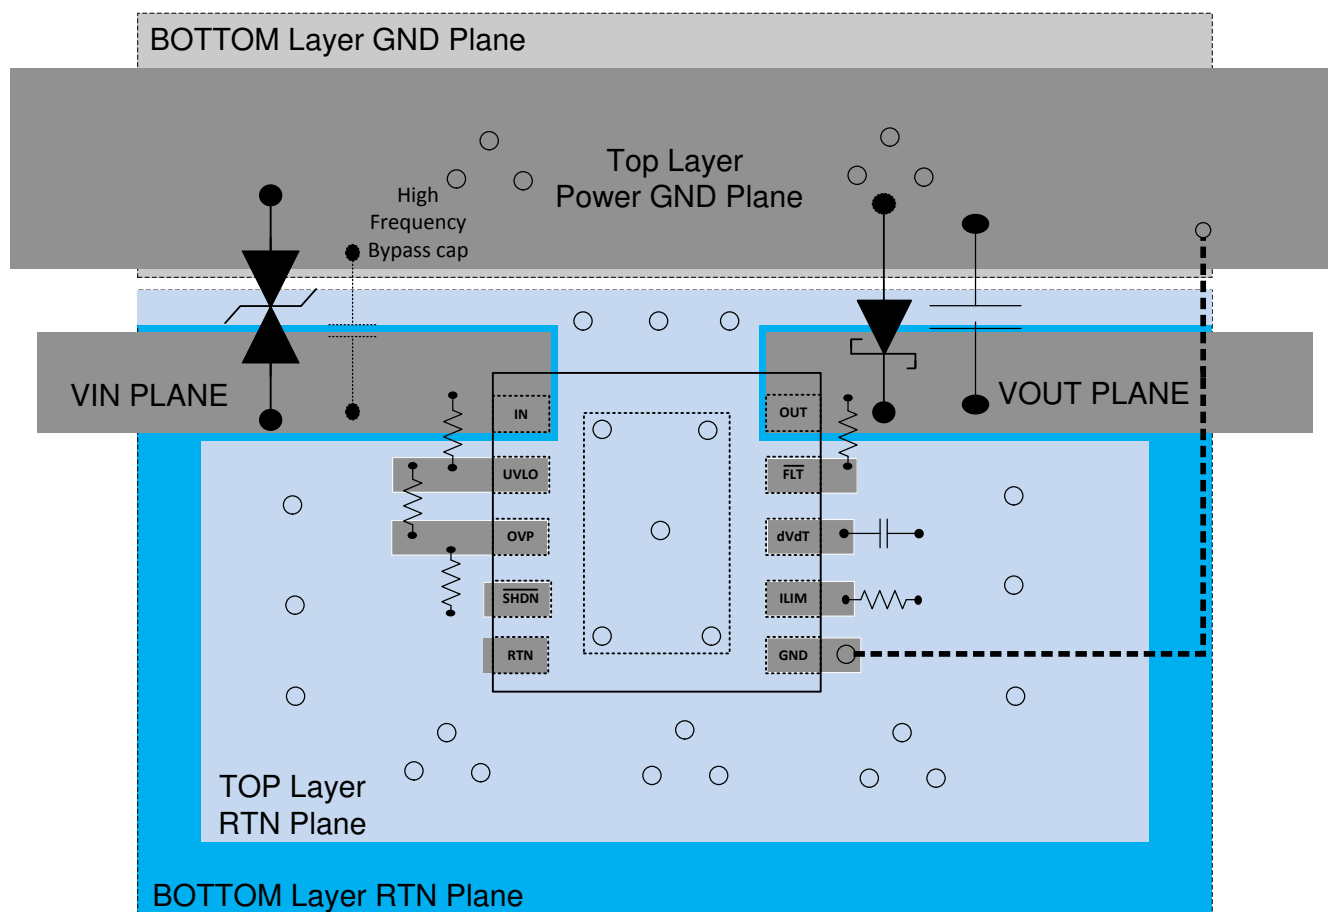

图 12-1. Typical PCB Layout Example With a 2 Layer PCB
- The optimum placement of decoupling capacitor is closest to the IN and GND terminals of the device. Care must be taken to minimize the loop area formed by the bypass-capacitor connection, the IN terminal, and the GND terminal of the IC. See Figure 12-1 for a typical PCB layout example.